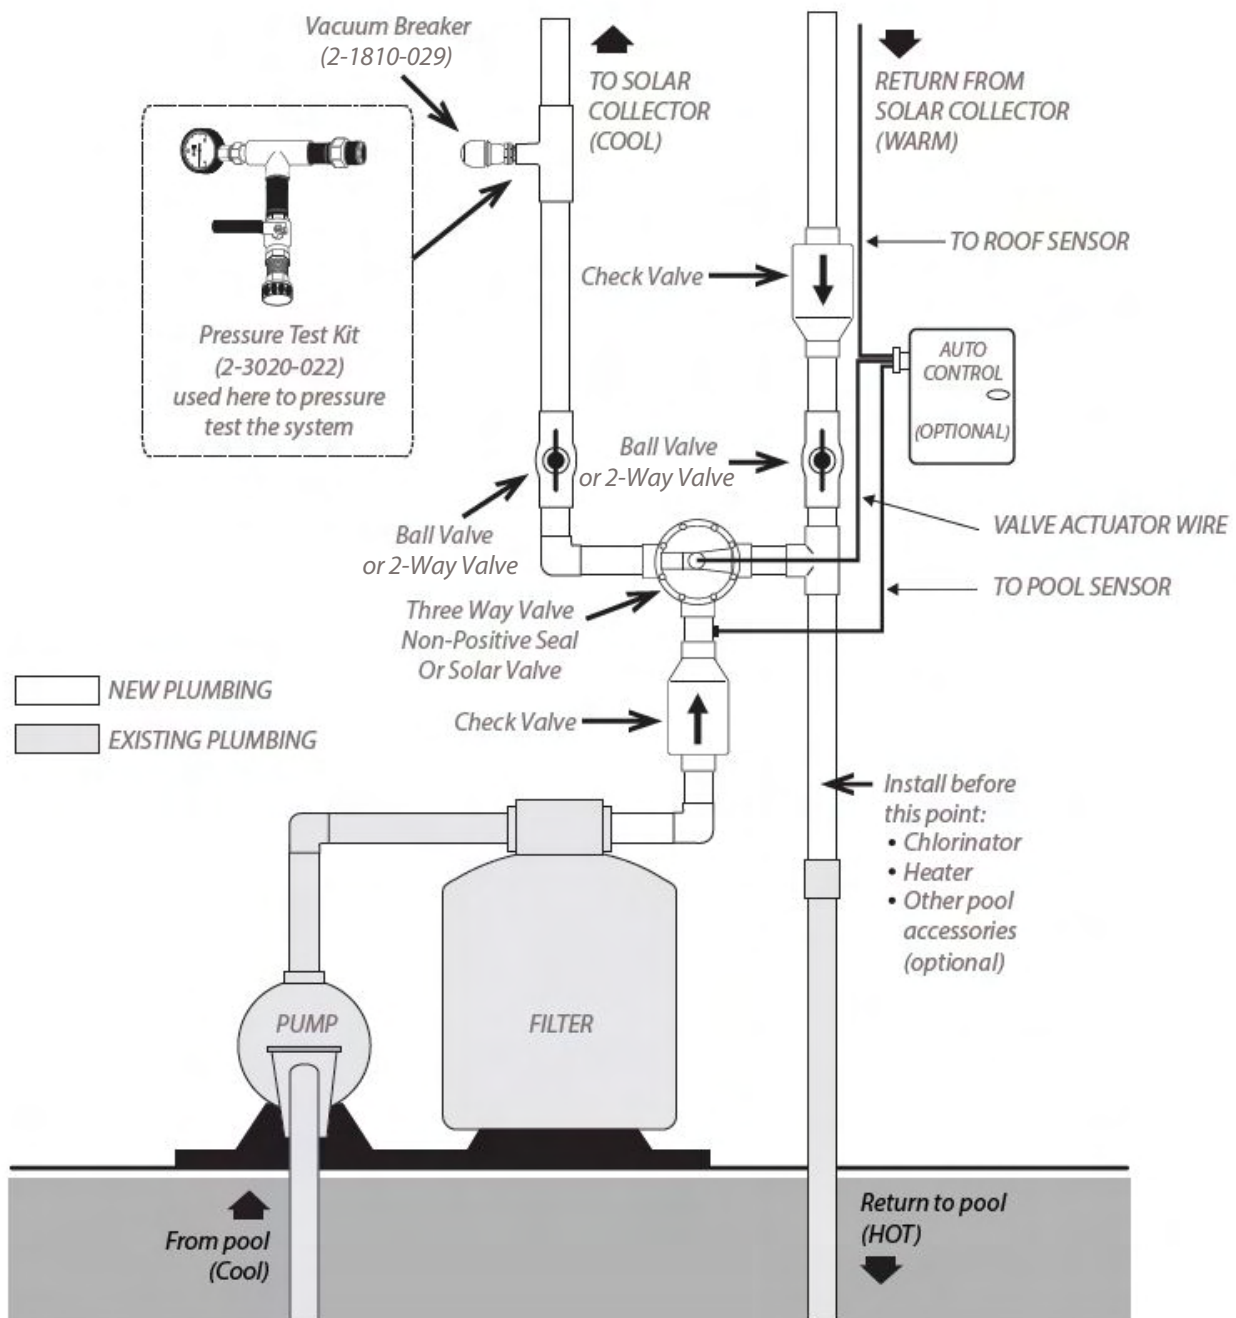

Fig. 23.1
Fig. 23.1 on page #23 shows how a typical Swim Joy solar pool heating system is plumbed into existing pool plumbing. This drawing may not be just like every system you encounter; the feed and return plumbing on a solar system may be reversed, or it may be a different type of filter, or it may have additional equipment such as a chlorinator, pool cleaner, gas heater, etc. It may also have a long run of plumbing from the pool equipment to the solar panels.
Whether the system is like this or not, Fig. 23.1 will help you understand the flow of water from the pool, through the pump, filter, solar system, and back to the pool. Study the diagram and become familiar with the valves needed to connect the solar panels to existing plumbing.
1. Study the plumbing after the filter and decide where you are going to install the check valve and the PVC tee fitting (see Fig. 23.1). If you have auxiliary equipment, you may need to re-plumb a portion of your existing plumbing so this equipment is located after the solar system as indicated in Fig. 23.1.
2. Cut the pipe after the filter where you have decided to locate the check valve and where your solar return pipe will attach to your existing pool return line. If your pool plumbing is 1-½", and you are running 2" plumbing to your solar system, you should be using 2" valves and piping for all of your new plumbing. Therefore you will need (2) 2"x1-½" reducer bushings to adapt your new 2" fittings to the existing 1-½" pipe.
6. Install the (2-1810-029) vacuum breaker about 4' up the feed line and above the top of the filter using a PVC tee and reducer bushing. Face the tee to the outside as shown in Fig. 23.1. Wrap the threads of the vacuum breaker with Teflon tape and screw it into the ¾" threaded reducer bushing.